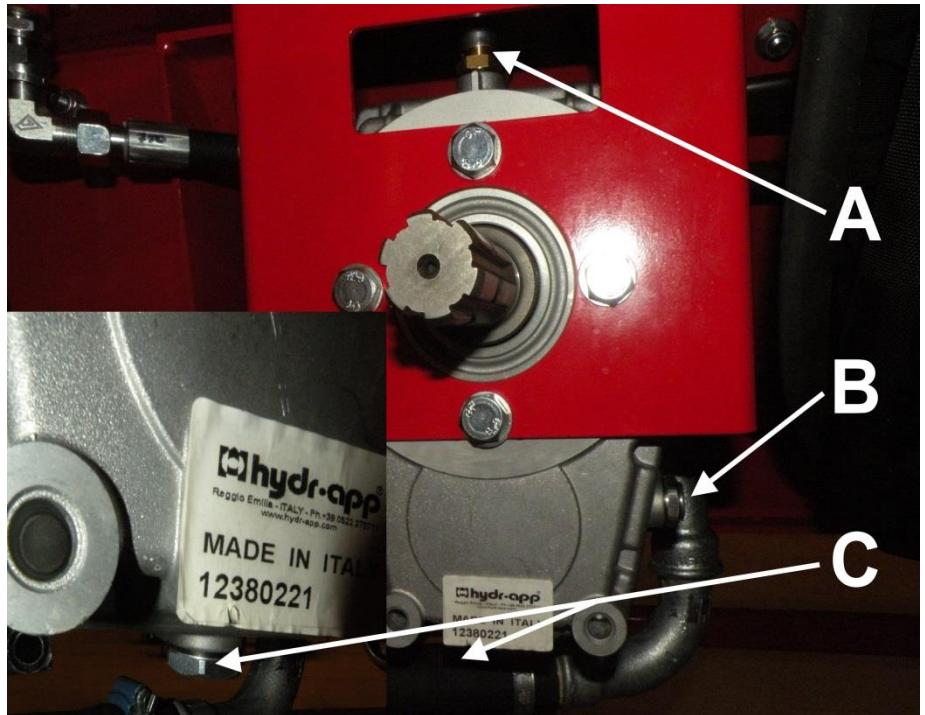

Figure 30.
1. Open filler cap A in Figure 30 (this will allow the oil to drain more easily), as well as drain cap C, and drain the oil into a suitable container.
2. Close drain cap C and open inspection cap B (Figure 30).
3. Add appropriate oil into the angle transmission through filling hole A, until the oil surface reaches inspection hole B (Figure 30).
4. Finally, close caps A and B in Figure 30.